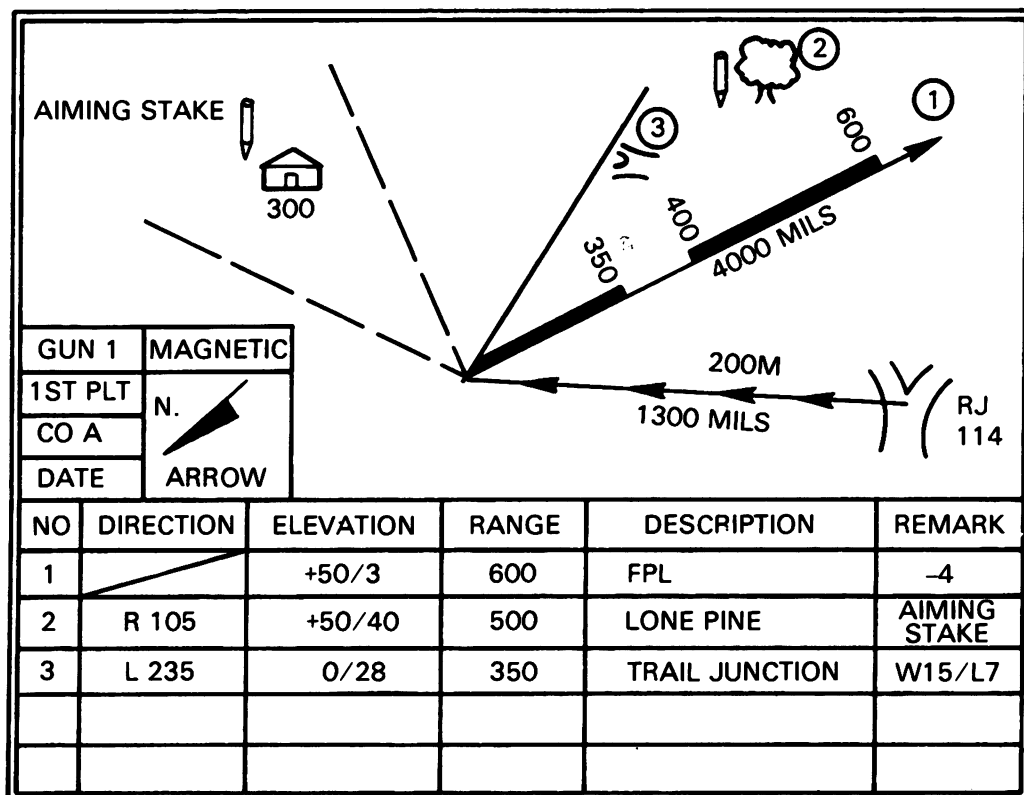

Figure 3. Range card with final protective line.
e. Specify the location of the gun position in relation to a prominent terrain feature. When no such feature exists, place the eight-digit map coordinates of the position near the point on your sketch representing the position (figure 2). If there is a prominent terrain feature within 1000 meters of the gun, use that feature (figure 3):
(1) Using the compass, determine the azimuth in mils **from** the terrain feature to the gun position. (Compute the back azimuth from the gun to the feature.)
(2) Determine the distance between the gun and the feature by pacing or from a map.
(3) Sketch in the terrain feature on the card in the lower left or right hand corner (whichever is closest to its actual direction on the ground) and identify it.
(4) Connect the sketch of the position and the terrain feature with a barbed line extending from the feature to the gun.
(5) Write in the distance in meters (above the line).
(6) Write in the azimuth in mils **from** the feature **to** the gun (below the line).